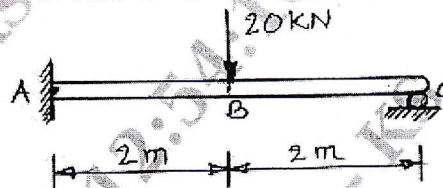

Fig. Q7 (b)
- 7 a. Derive the statically equivalent nodal force vector for a two noded beam element subjected uniformly distributed load (W). (08 Marks)
- b. A beam with fixed end and roller support is subjected to a point force of 20 kN as shown in Fig. Q7 (b). Determine (i) Transverse forces and bending moments, and (ii) Deflections and slopes at points A, B and C. Take $E = 2 \times 10^8 \text{ KN/m}^2$ and $I = 8 \times 10^{-6} \text{ m}^4$. (12 Marks)